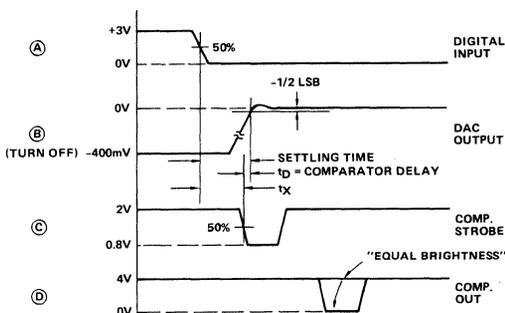

FIGURE 3B.
As shown in Figure 3B, settling time equals t_X plus the comparator delay ($t_D = 15$ ns). To measure t_X ,
- Adjust the V_{LSB} supply for 50 percent triggering at COMPARATOR OUT. This is indicated by traces of equal brightness on the oscilloscope display as shown in Figure 3B. Note DVM reading.
- Switch the LSB to Pulse (P).
- Measure t_X from scope as shown in Figure 3B. Settling time equals $t_X + t_D$, i.e. $t_X + 15$ ns.